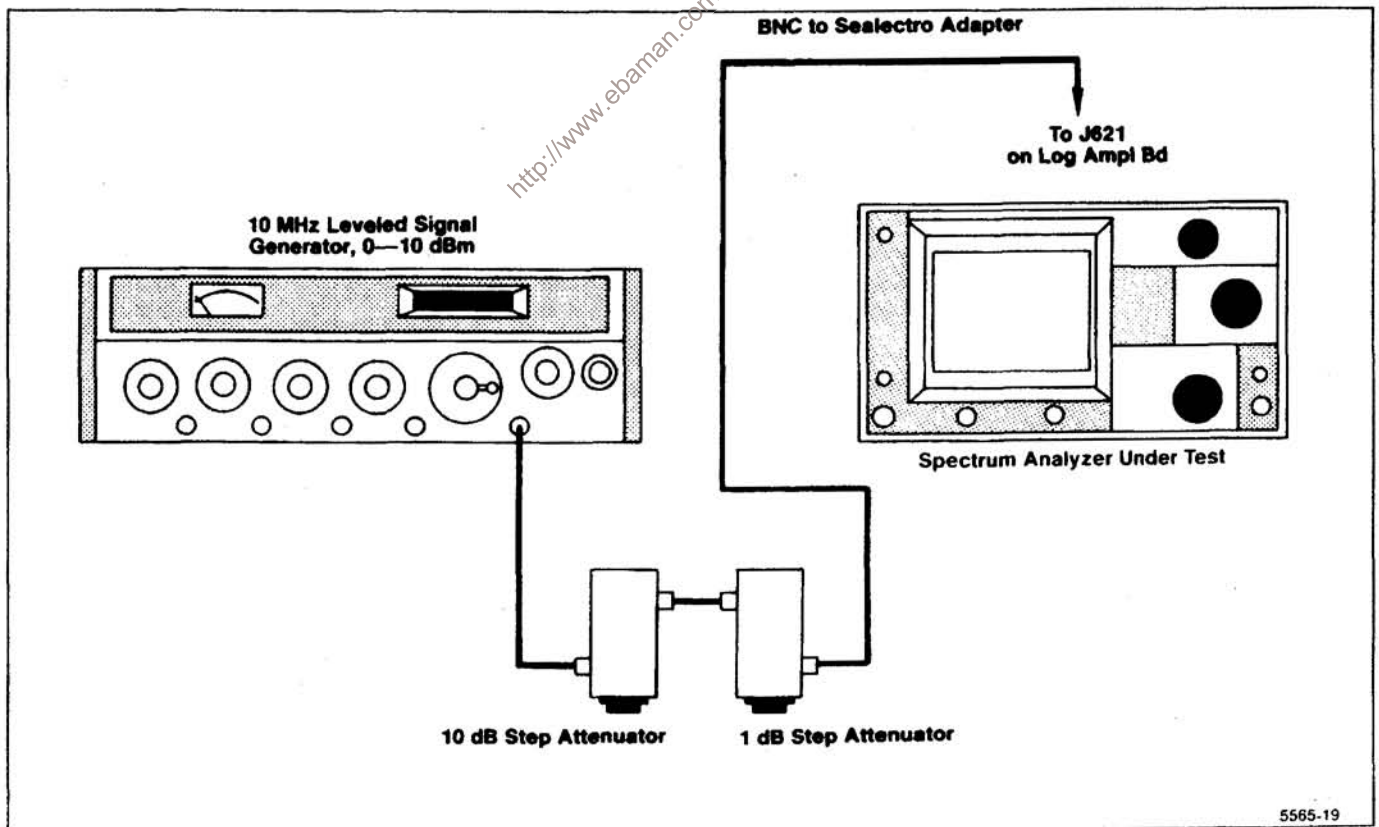
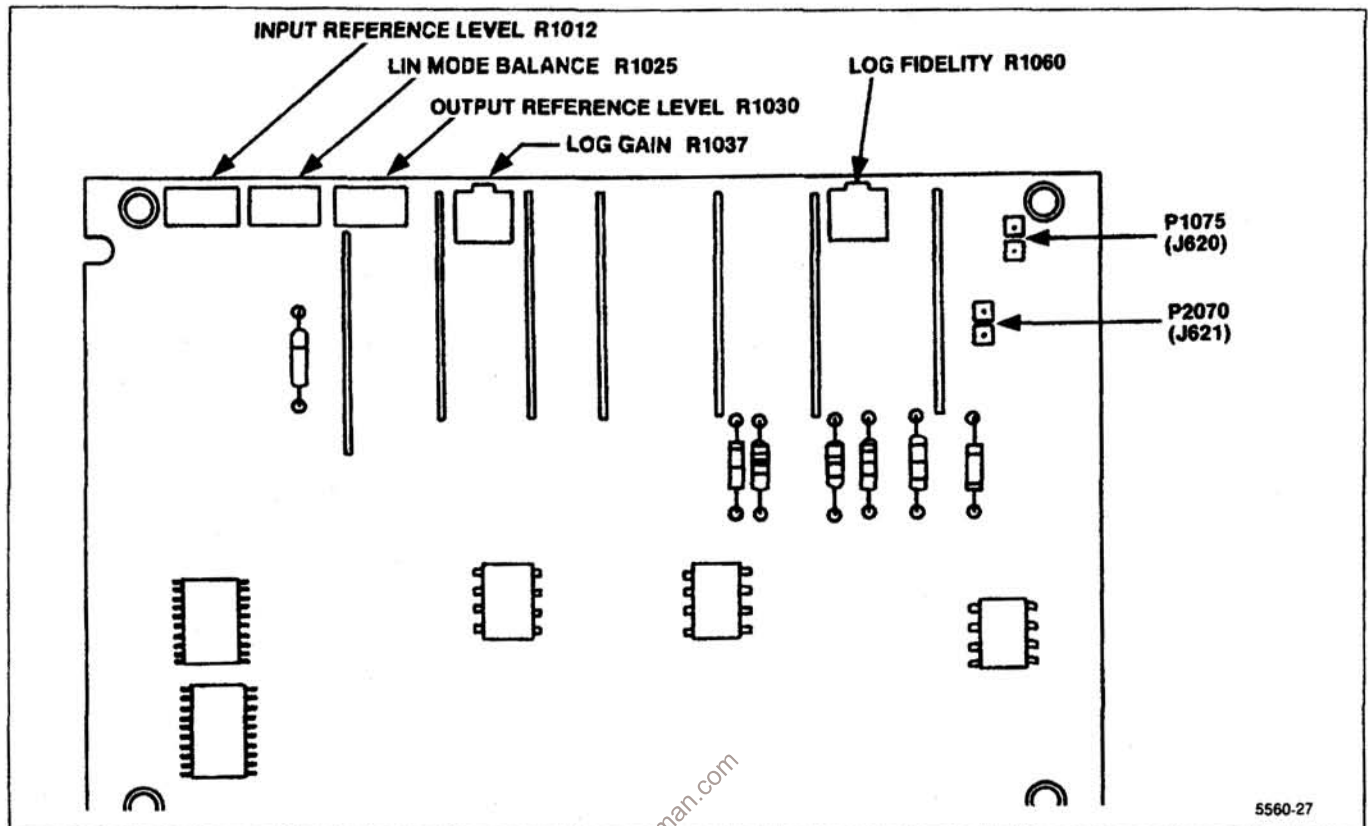

Figure 5-12. Test equipment setup for adjusting the Log Amplifier.
Figure 5-13. Log and Video Amplifier test point and adjustment locations.
b. Connect the test equipment as shown in Figure 5-12. (P621 must be removed in order to access J621 on the Log Amplifier board. See Figure 5-13.) Set the Spectrum Analyzer controls as follows:
h. Adjust the Log Gain, R1037 (Figure 5-13) so each 10 dB increment of attenuation results in one major division of change on the display.
j. Adjust Input Reference Level, R1012 (Figure 5-13) for minimum amplitude change between the 10 dB/DIV and 2 dB/DIV displays while alternately switching the VERTICAL DISPLAY between 10 dB/DIV and 2 dB/DIV.
m. Adjust Output Reference Level, R1030 (Figure 5-13) for a full screen (eight divisions) display.
n. Switch to the 10 dB/DIV mode and set the step attenuators for 40 dB of attenuation. Adjust Log Linearity, R1060 (Figure 5-13) so the display is mid-screen.
u. Press LIN and adjust Lin Mode Balance, R1025 (Figure 5-13) for a full screen display. Amplitude of LIN, 2 dB/DIV, and 10 dB/DIV display should now be the same.
(3) Connect the output of the Variable Resolution module to the input of the Log Amplifier assembly by connecting a cable from J682 on the Variable Resolution Module to J621 on the Log & Video Amplifier assembly (see Figures 5-13 and 5-14).
(4) Apply the CAL OUT signal to the RF INPUT, and set the Spectrum Analyzer controls as follows: